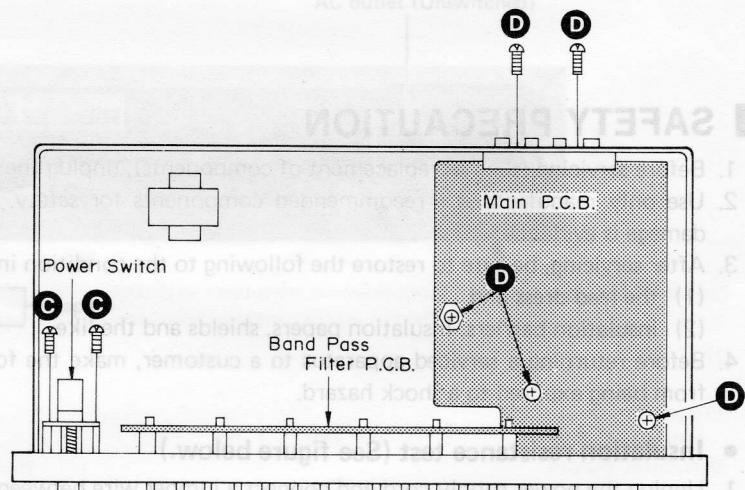

Fig. 2
4. Remove the setscrews [Fig. 2: C] of the power switch.
2. Remove the 5 screws [Fig. 2: D] from the chassis.